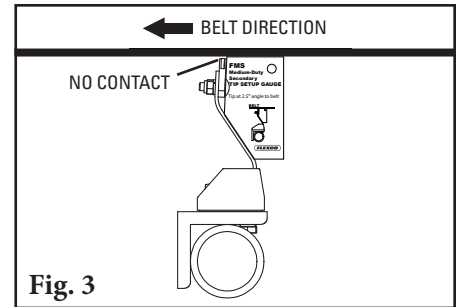

Fig. 3
3. **Set the blade angle.** Center the pole/blades on the belt. Rotate the pole until the tips align with the FMS tip setup gauge provided (Fig. 3). Tighten the pole clamp bolt on each pole mount to lock the pole in place. Use an allen key to lock the set screw. There should be no blade-to-belt contact while locking the pole into position. If contact occurs, double check the dimension from Step 1.
3. **Set the blade angle.** Center the pole/blades on the belt. Rotate the pole until the tips align with the FMS tip setup gauge provided (Fig. 3). Tighten the pole clamp bolts on each pole mount to lock the pole in place. Use allen key to lock in set screw. There should be no blade-to-belt contact while locking the pole into position. If contact occurs, double check the dimension from Step 1.